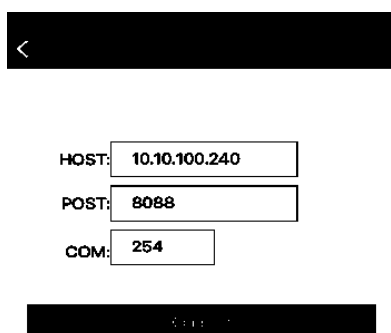

Fig. 13 Wi-Fi parameters
- ❶ If the Wi-Fi Connect is selected in the first step, it will skip to the interface of Fig. 13, and then click Connect.